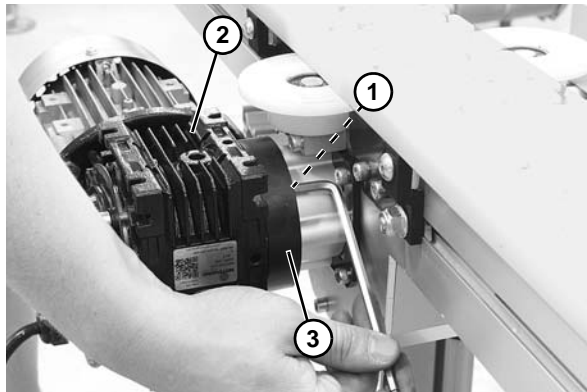

Figure 140
1. Remove four socket head screws (**Figure 140, item 1**). Remove drive package (**Figure 140, item 2**) from drive motor mounting bracket (**Figure 140, item 3**).